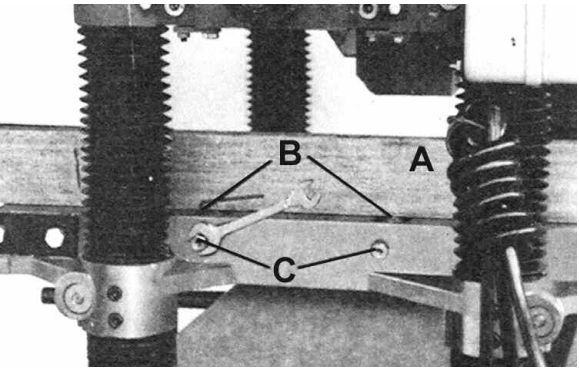

FIGURE 11
2. Lay a straight edge (A) Fig.11 across both rollers, loosen both set screws (B) Fig.11, and turn the eccentric shafts (C) to raise or lower the table rollers, when the proper height is obtained tighten screws (B). The table rollers must be adjusted on the opposite end of the table in the same manner.